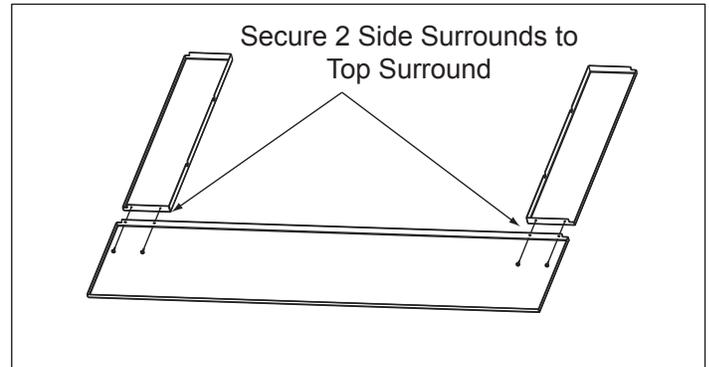

Figure 41.1
2. Using a Phillips head screw driver attach the side surrounds to the top surround using 2 #8 sheet metal screws provided with the kit. **Figure 41.1**